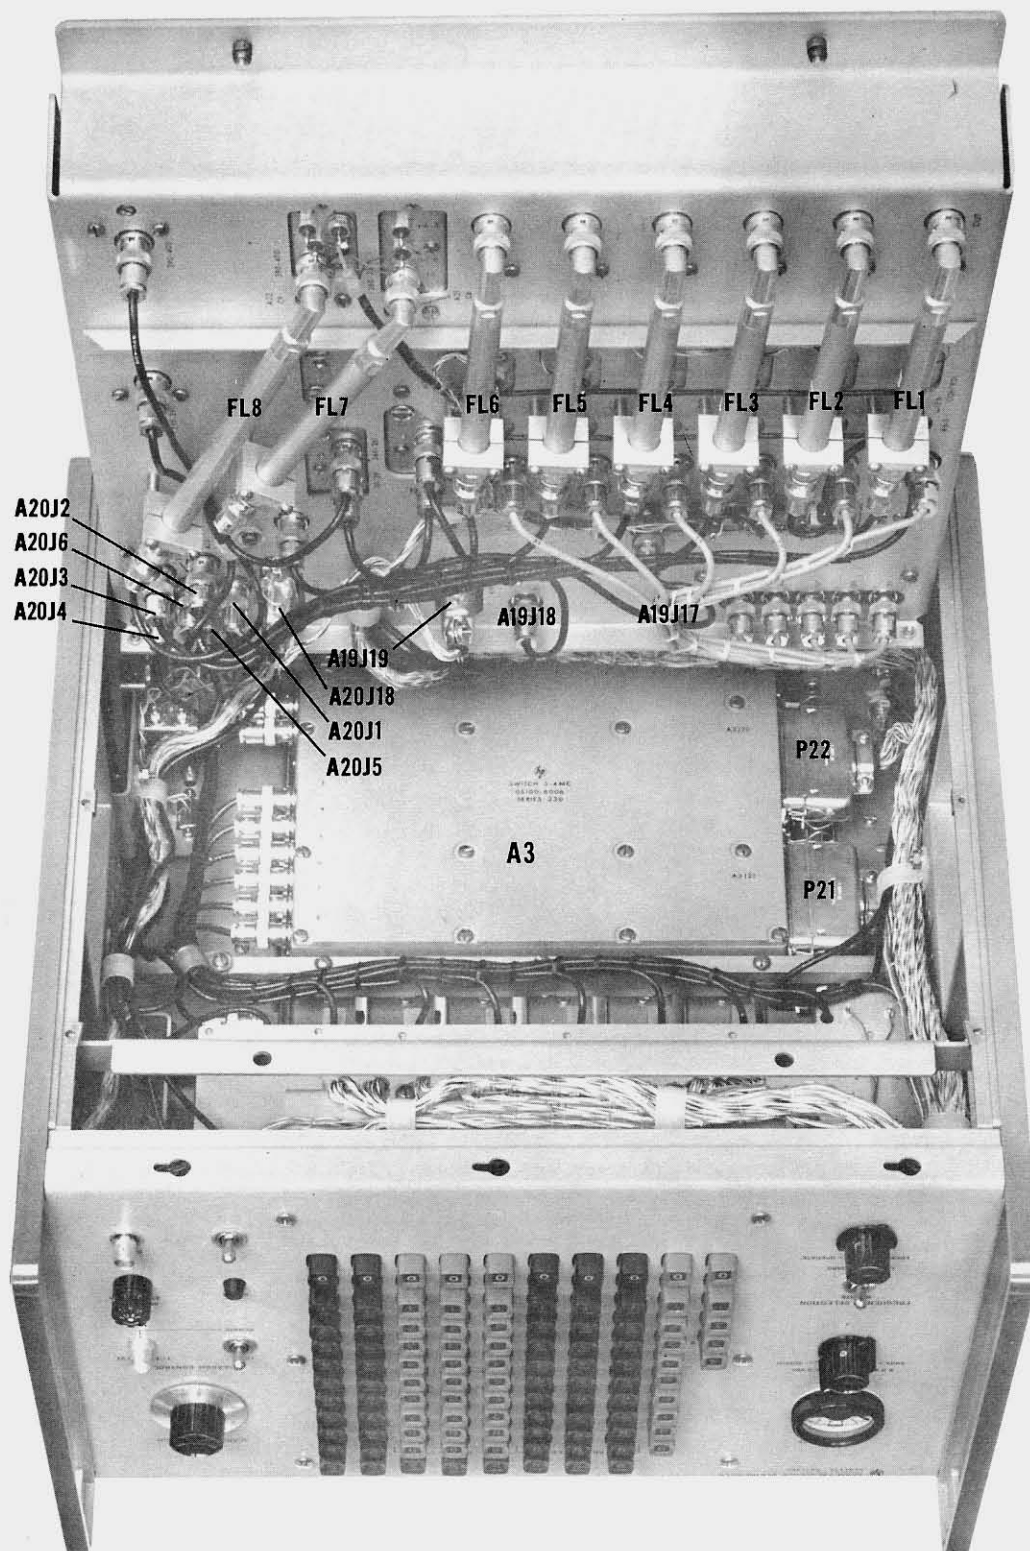

Figure 5-9. Component Location - UHF Deck Swung Out
b. Disconnect 39 Mc cable to A13 input (see Figure 5-9) and connect 39 Mc from an $\text{C}\phi$ 5110A.
d. Remove cable marked "390 Mc" which connects output of FL1 and 350 to 390 Mc Switch A20 (see Figure 5-9).
5-75. To measure insertion loss, swing out UHF deck (see Figure 5-9) and connect the input of the desired switch through a BNC "T". Connect another BNC "T" to J6. Using the appropriate front panel pushbutton, or remote programming, turn the switch "on". Measure the input with an $\frac{1}{2}$ 411A RF Millivoltmeter (use db scale). Measure the output with the RF Millivoltmeter. The difference in db readings is the insertion loss of that diode switch. Insertion is normally less than 1 db.